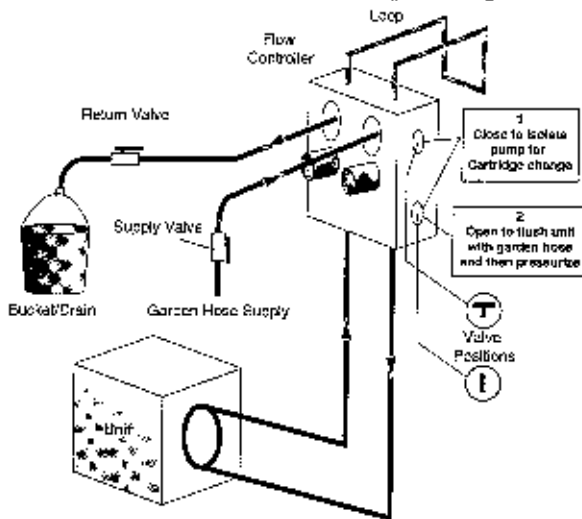

Figure 10 - Cartridge Replacement Procedure
First isolate the pump in question as in Figure 10. **Always disable power to the pumps** and remove pump power wiring if needed. Close valves as in Step 1 of Figure 10.
- Place garden hose supply and return on flush ports as shown in Figure 10 and open valves to flush through the unit portion of loop. When water flows clear, close return side to pressurize and finally close the supply side valve. Finally close 3-way valves to operation position Figure 9E. The loop can also be refilled using the complete procedure outlined for installation.